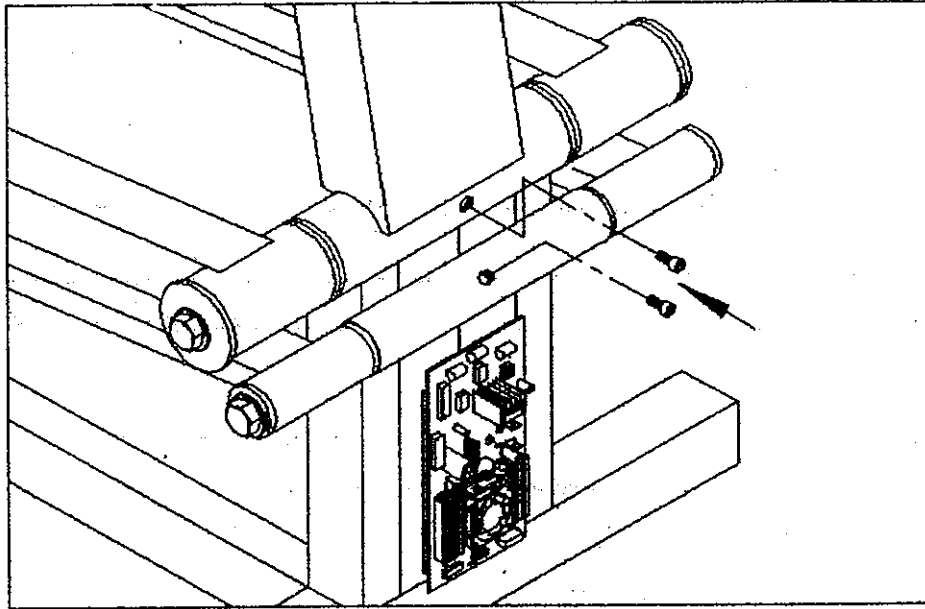

Fig. 17
3. Secure the stair arm shafts with the two screws to lock the shafts in place (see Fig. 17).